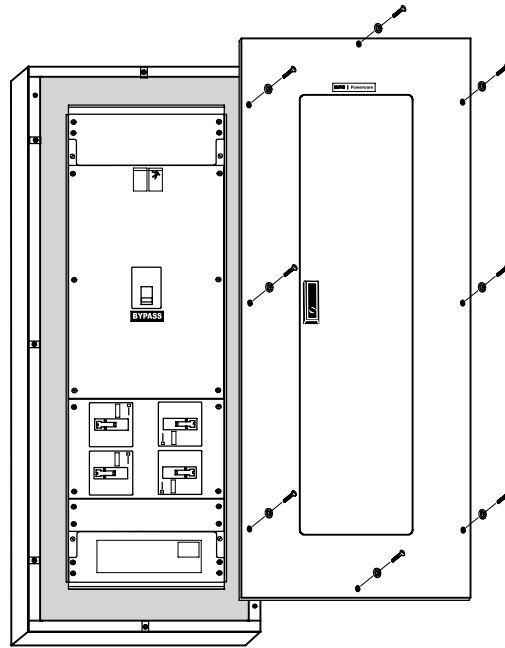

Figure 2. Tie Cabinet Front Cover
5. Remove the Tie Cabinet front cover (see Figure 2).